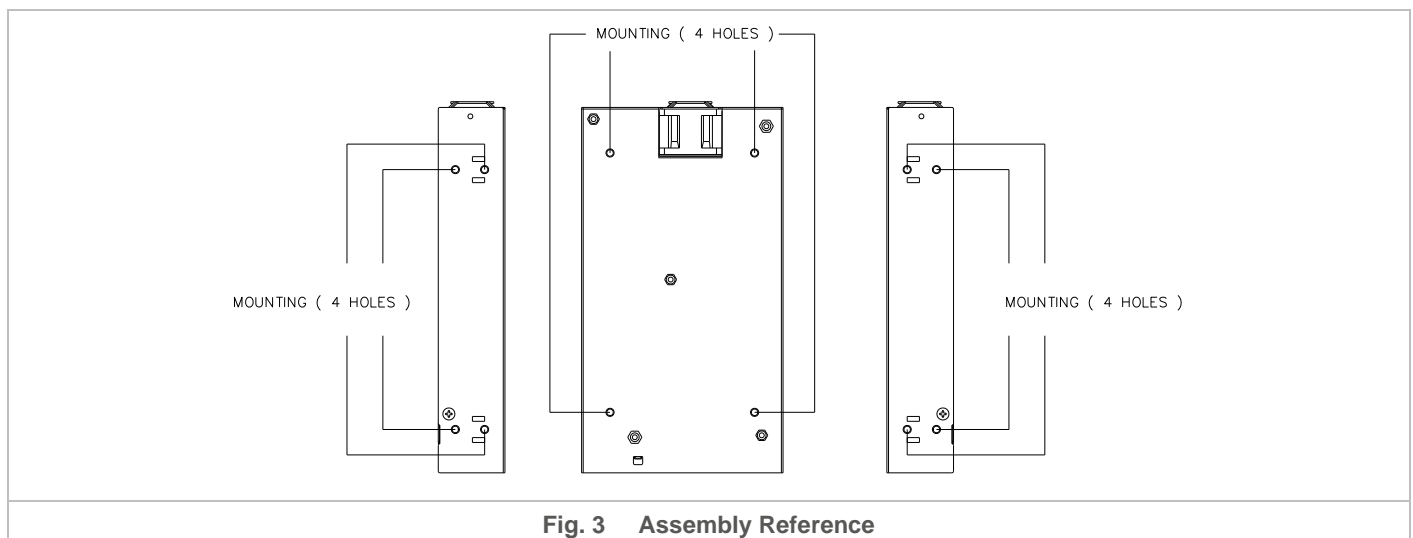

Fig. 3 Assembly Reference
- Ⓐ Mounting: Fig.3 shows the mounting hole locations for power supply assembly onto a metal mounting surface.
- Use flexible cable (stranded or solid) of AWG No.14-10. User should calculate and select the suitable wire specification (type/quantity/diameter) according to actual output current. The torque at the Connector shall not exceed 10.2 Kgf.cm. (8.85 lbf.in). The insulation stripping length should not exceed 0.275" or 7 mm. (Refer to Fig. 3).